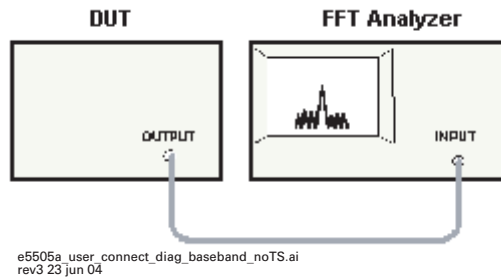
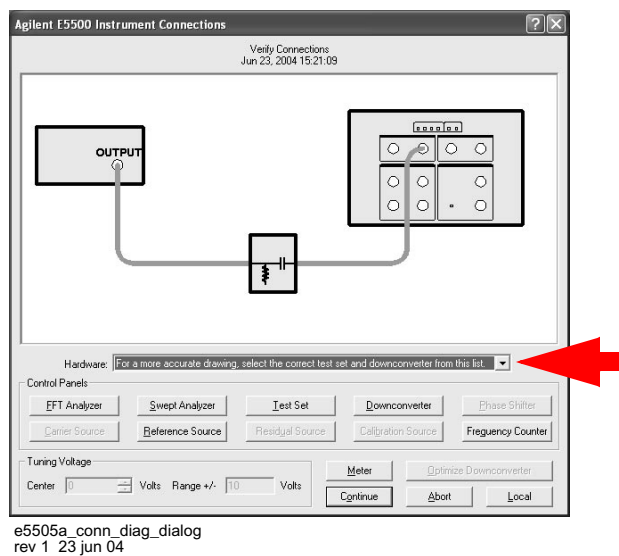

Figure 257 Connect diagram for baseband without test set measurement
Figure 258 Instrument connection dialog box
- 3 The **Instrument Connection** dialog box appears. (See Figure 258 on page 320.) At this time, connect your DUT and an FFT analyzer with the system as shown in Figure 257 on page 320.